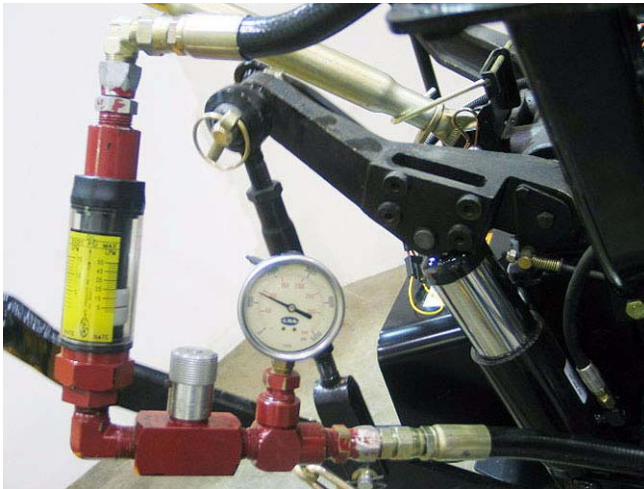

Figure 8.29
- 8.29. As the lift arms travel upward, close the valve on the test kit. Note the pressure. See Figure 8.29.